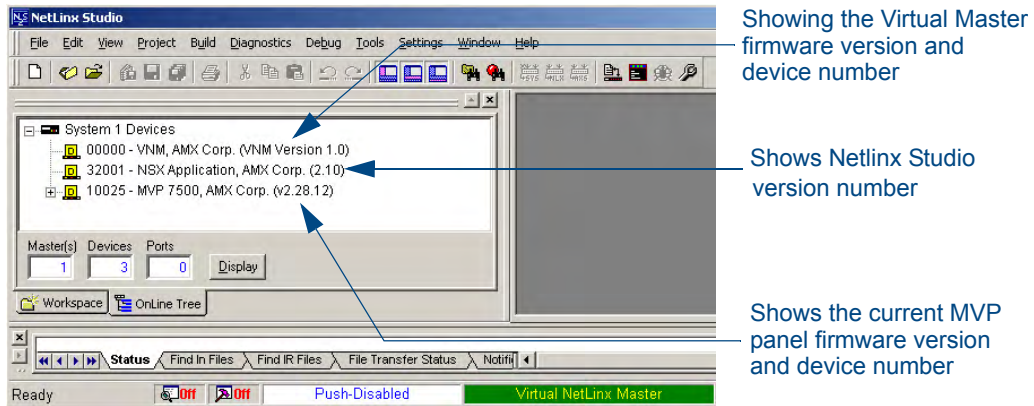

FIG. 83 NetLinx Workspace window (showing panel connection via a Virtual NetLinx Master)
3. After the Communication Verification dialog window verifies active communication between the Virtual Master and the panel, click the **OnLine Tree** tab in the Workspace window (FIG. 83) to view the devices on the Virtual System. *The default System value is 1.*
4. Right-click on the System entry (FIG. 83) and select **Refresh System** to re-populate the list. Verify the panel appears in the **OnLine Tree** tab of the Workspace window. *The default Modero panel value is 10001.*